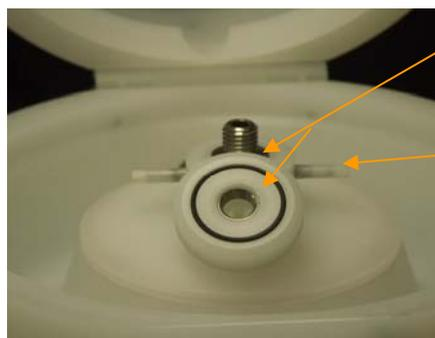

Figure 3-12A
- Hold the two horizontal arms on the column below the base of the chuck. Turn the chuck counter-clockwise to remove (see fig. 3-12A), and clockwise to install, making sure the chuck is snug (see fig.3-12B).